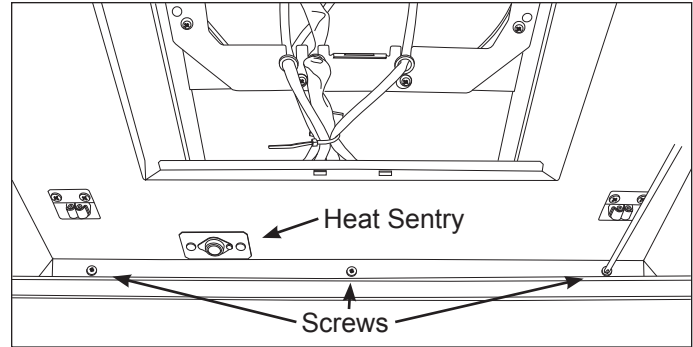

Figure 4-16 Inner Panel Front Screws
2. Locate the (3) screws fastening the front of the shroud to the hood frame. Using a Phillips screw driver, remove the screws as shown in Figure 4-16.